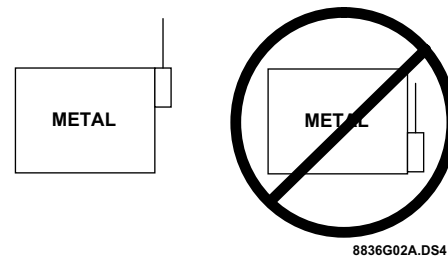

Figure 5. When Mounting on Metal is Unavoidable
- or--* If unavoidable, mount on metal with the antenna extending above the metallic surface (see Figure 5).